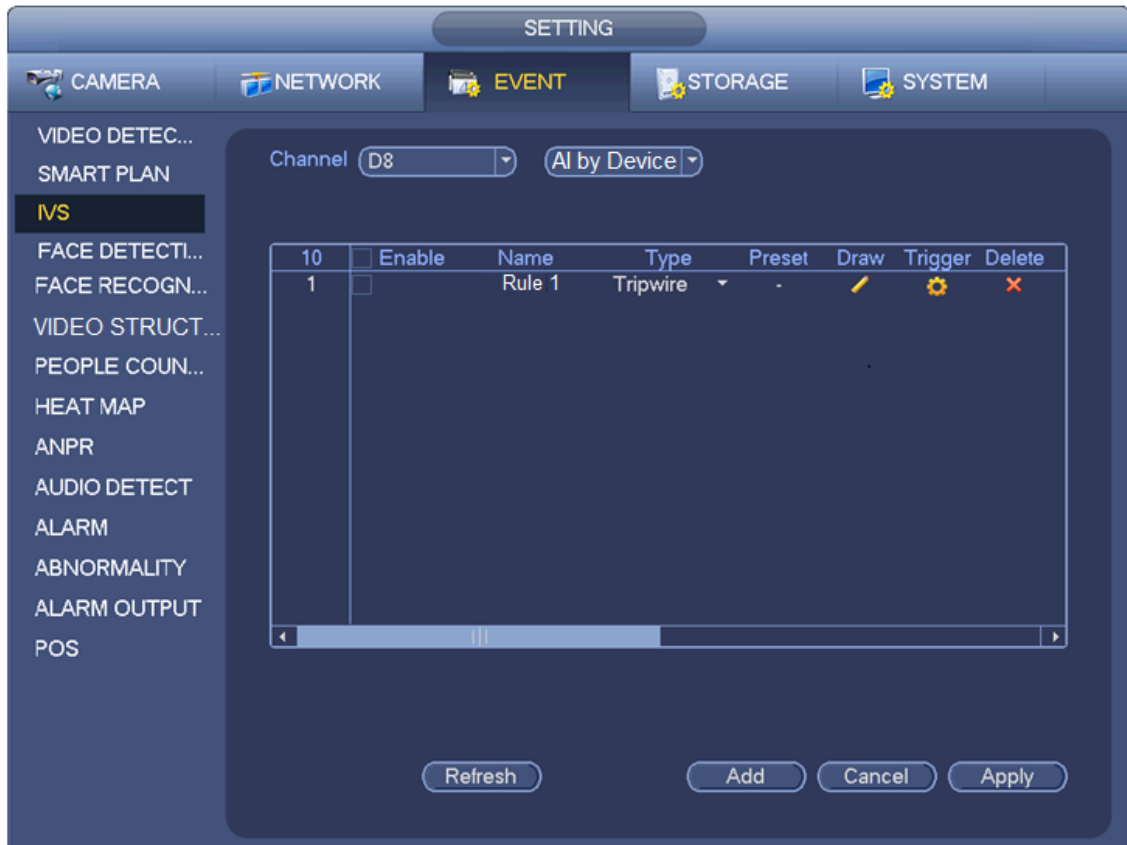

Figure 4-129
Step 4 Click Add and select the rule type according to the actual needs. See Figure 4-129.